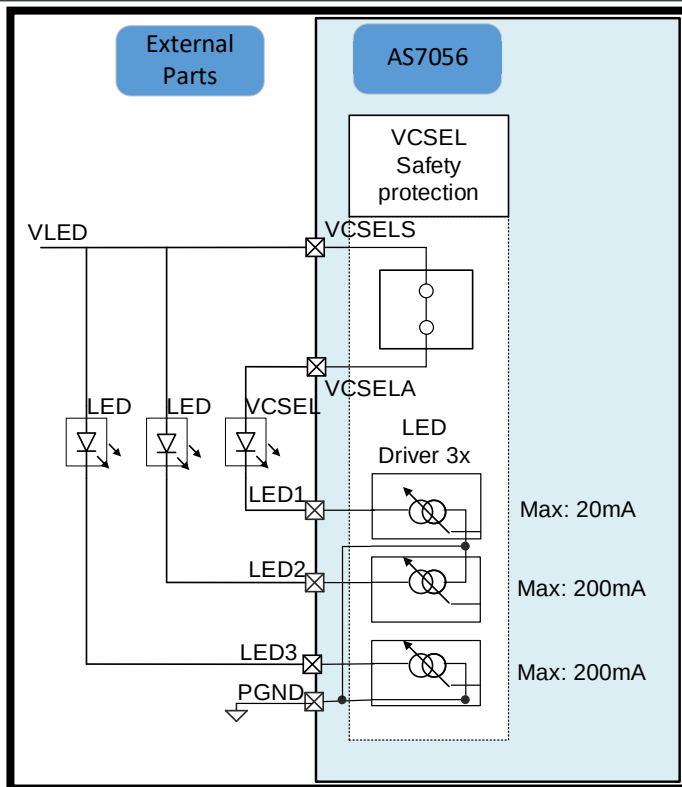

Fig. 14: AS7056 LED drivers
- *Fig 14* shows a basic idea of the PD connections.